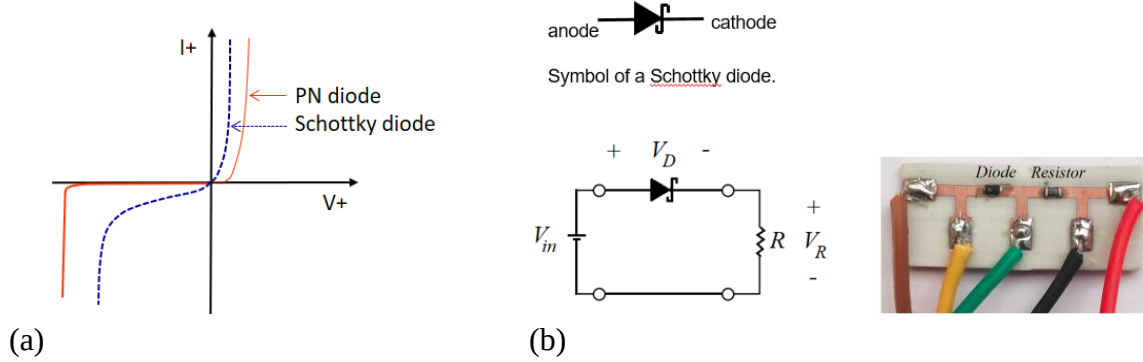

Fig. 1 (a) D.C. characteristics of a Schottky diode, and (b) the circuit used to obtain the D.C. characteristics.
A Schottky diode is a specialized type of diode that employs the Schottky barrier formed at the junction between a metal and a semiconductor. This particular junction lacks a space-charge region, resulting in the absence of junction capacitance. Nevertheless, a small parasitic capacitance is present due to the diode's packaging. Additionally, it exhibits a low forward voltage. Schottky diodes find widespread use in high-speed switches, microwave power detectors, mixers, and multipliers operating at microwave to terahertz frequencies. These diodes take advantage of their non-linear characteristics for rectification and detection purposes. Refer to Fig. 1(a) for a depiction of a typical Schottky diode response. Fig. 1(b) shows the circuit used to attain its D.C. characteristics. The current in reverse bias conditions is several orders of magnitude higher than that of conventional *pn*-junction diodes. Thus, it is considered inferior as an rectifier. However, the forward knee voltage is significantly lower, rendering Schottky diodes suitable for detecting low-intensity microwave signals. The principle of power detection relies on rectifying the signal (AC component) through a diode and generating voltage as DC component. So, a bias circuit may not be necessary. Then, it is called a zero bias detector.
2. Connect a variable D.C. voltage source as shown in Fig. 1(b).
3. Obtain both the forward and reverse bias characteristics as shown in Fig. 1(a).